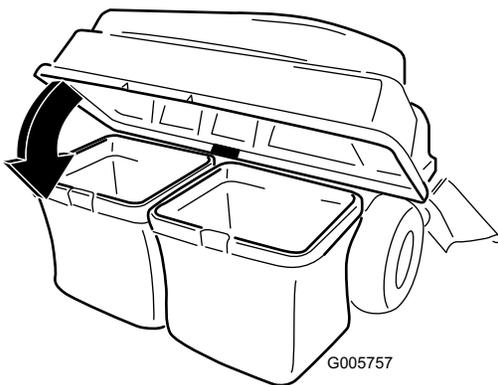

Figure 9
- Lower the bagger top onto the bag (Figure 9).